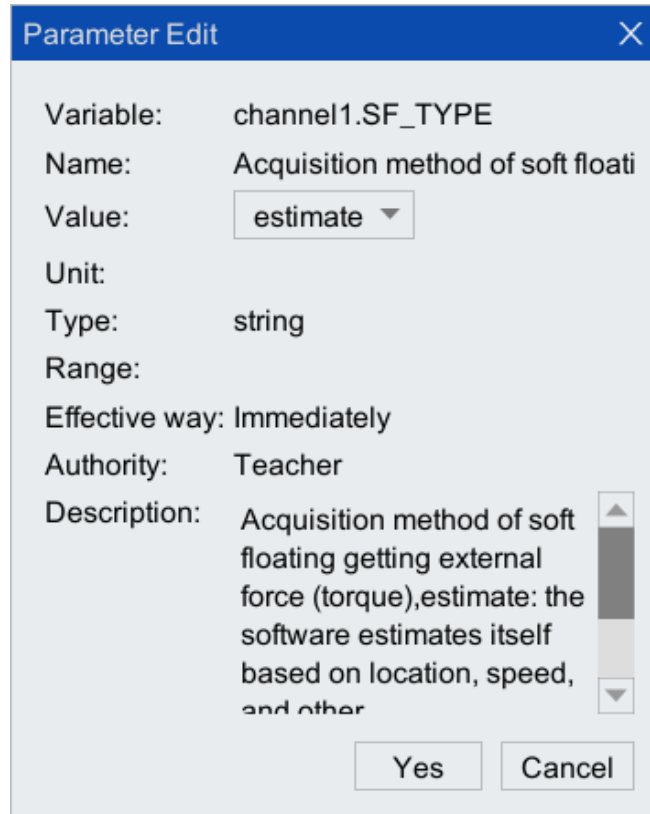

Figure 4-4 Soft float external force acquisition method configuration interface
Step5. Click <Edit>, and the dialog box shown in Figure 4-4 will pop up. Configure the parameter in [Value] to "estimate" and click <Yes>. The parameter description is shown in Table 4-2.